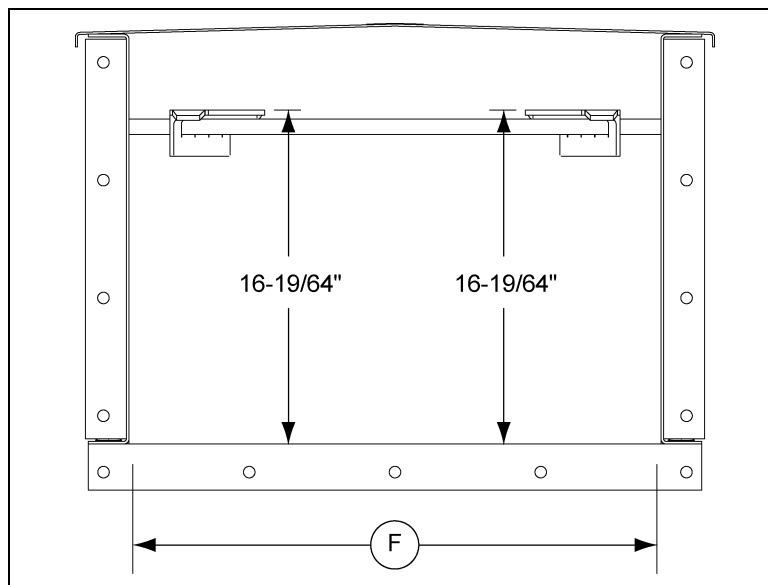

Figure 6F Typical Intermediate Trough Section Assembly with Slide Rail Returns
1. Lay the bottom plate weldment (A) onto blocking material.
2. Attach the side weldments (C) to the bottom plate weldment (A) with both 3/8 inch and 5/8 inch hex bolts and flange nuts.
3. Install side liners (B) with 3/8 inch countersunk bolts and flange nuts, making sure the end edges of the liners are flush with the flanges of side weldments (C). (**NOTE: Side liners are optional.**)
4. Install the rail return weldment (E) with 5/16 inch flange bolts.
5. Once all the components are in place, make adjustments to ensure that the end of each side liner (B) is flush with the flanges of the side weldments (C). Also, ensure that the flanges of the side weldments are flush with the flanges of the bottom plate weldment (A).
6. Check the spacing between the side weldments at the top and bottom of the intermediate and measure to the nominal conveyor width ensuring a square assembly. (See Note and Figure 6F on Page 17.)
NOTE: 20 Inch tall trough sections are manufactured for inside width dimensions (*F*) of 14, 16, 20, 26 or 32 inches. (See Figure 6F.) These dimensions do not include liners. It is important that the inside dimensions of the box are equidistant from the bottom plate to the slide rail shafts.